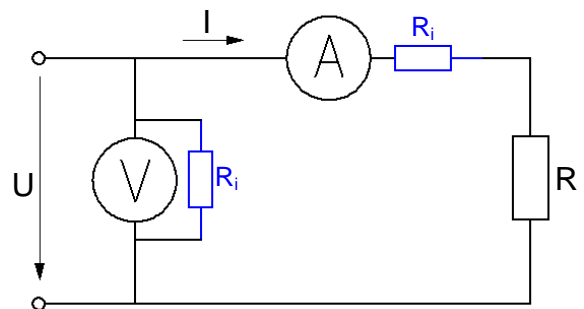

Fig. 4.1.3: Voltage error circuit
This applies in particular when voltage and current at a consumer, are to be measured at the same time. The method of connecting both test meters depends on the resistance value of the consumer. For low-resistive consumers ( $\Omega$ ), the voltmeter and ammeter are connected as shown in Fig. 4.1.2 (current error circuit). At high-resistive consumers ( $k\Omega$  and more), the connections shown in Fig. 4.1.3 are used (voltage error circuit).
- Assemble the **voltage** error circuit in Fig. 4.1.3 on the Board. Set the output of the voltage source to  $U = 5 \text{ V}$ .